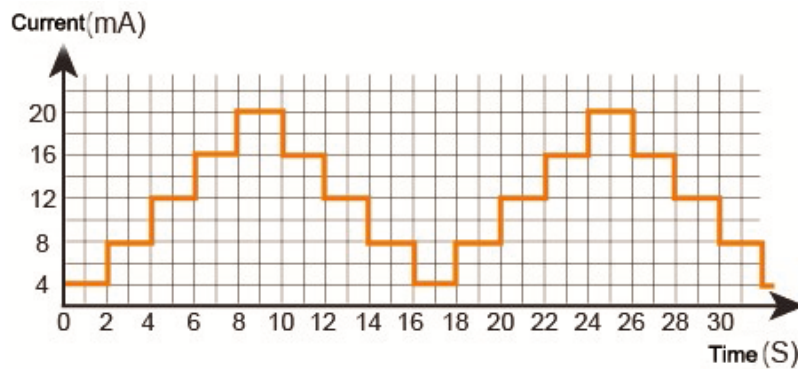

Figure 26 Automatic step customize output points
**d.** Custom mode: In the custom mode, the user can manually edit each step point. Up to 16 step points can be added, and each step point cannot exceed the output range of the current output signal. After selecting the custom step mode, click the "point list" menu item to enter the set point editing interface (Figure 26 auto step custom output point). In